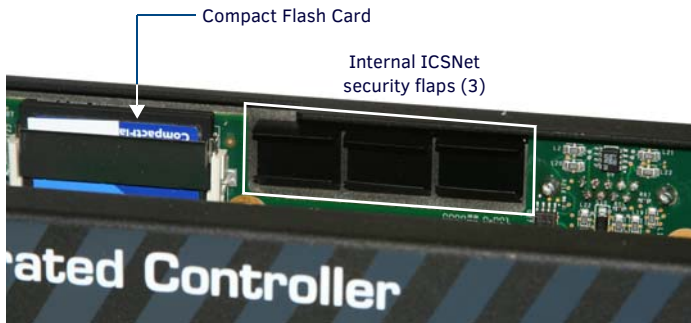

FIG. 6 ICSNET SECURITY FLAPS (REAR PANEL, INSIDE VIEW)
1. Inside the enclosure, locate the 3 internal ICSNet cover plate security flaps (FIG. 6).